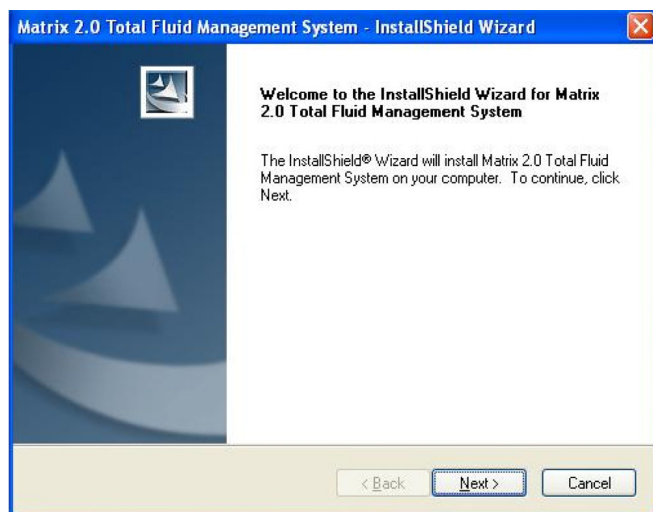

FIG. 12 Setup Path 1 - InstallShield Wizard
See FIG. 12 through FIG. 21.
4. The setup program should start automatically. If it doesn't, open Windows Explorer (**Start / All Programs / Accessories**). Locate the CD-ROM drive letter under **My Computer** and double-click the setup executable file to see the screen shown in FIG. 12.